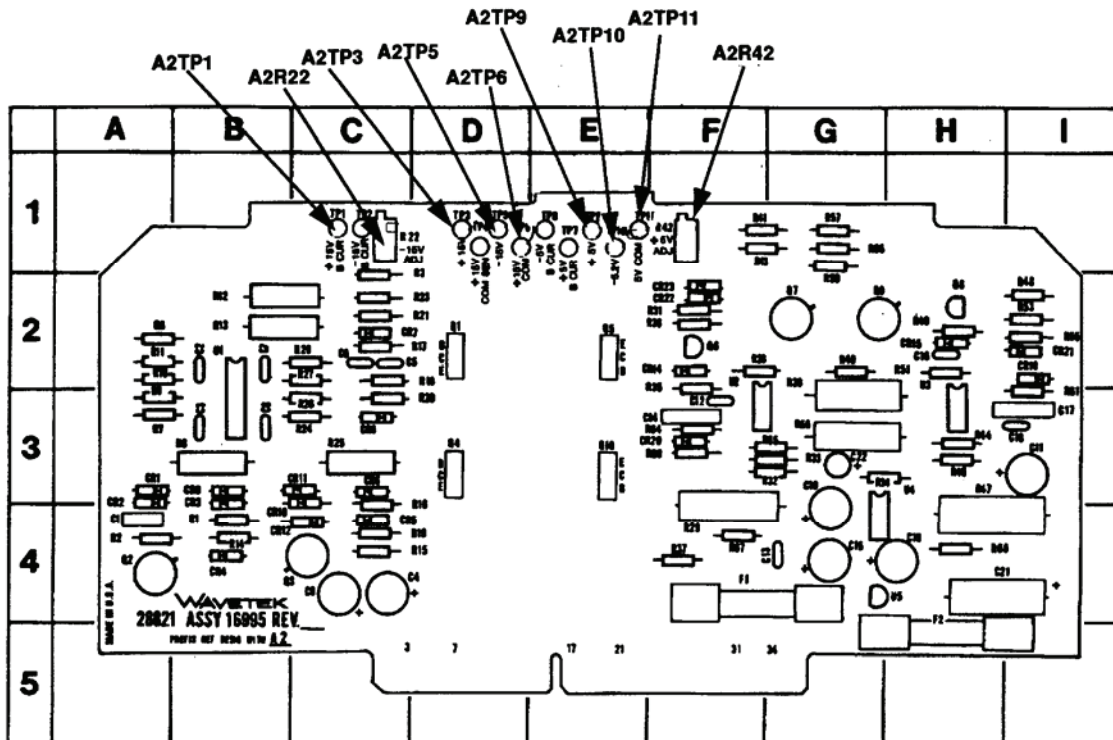

Figure 4. Power supply - component locations.
- (4) Set autotransformer power switch to **ON** position and adjust autotransformer controls for 115 V ac output.
- (5) Remove TI top.
- (6) Set TI **POWER** switch to **ON**.
- (7) Allow 30 minutes for TI to warm-up and stabilize.
- (8) Connect multimeter (dc mode) to test points (refer to figure 4 for test point locations) listed in table 5. If multimeter does not indicate within the limits listed in table 5, perform corresponding adjustments listed.
- (9) Adjust autotransformer controls from 105 to 125 V ac while observing multimeter indications. Multimeter indications will be within the limits listed in the change in voltage (\pm mV) column of table 5.
- (10) Repeat (8) and (9) above for remaining power supply voltages (V dc) listed in table 5.
- (11) Press TI **POWER** switch to **OFF** position.
- (12) Disconnect TI from equipment setup.
- (13) Replace TI top.